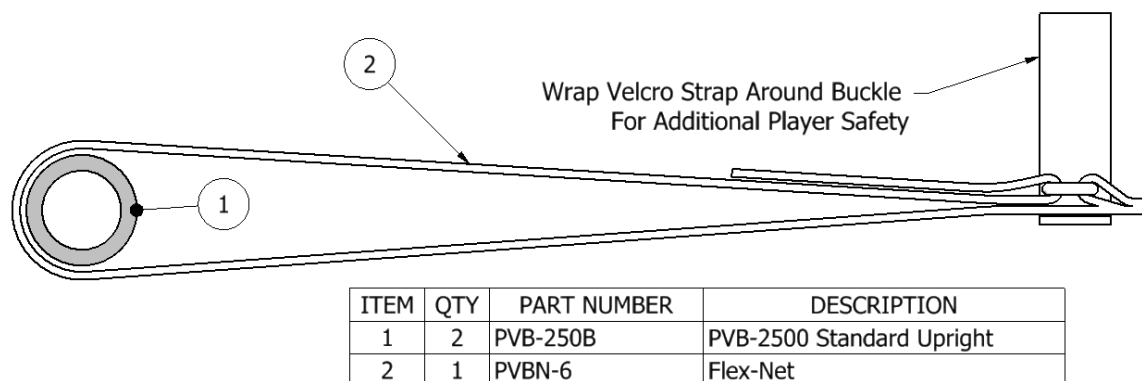

Figure 6-6: Secure bottom net straps to uprights.
13. Attach the bottom net straps to each upright as shown in Figure 6-6. Wrap Velcro straps around buckles for additional player safety.